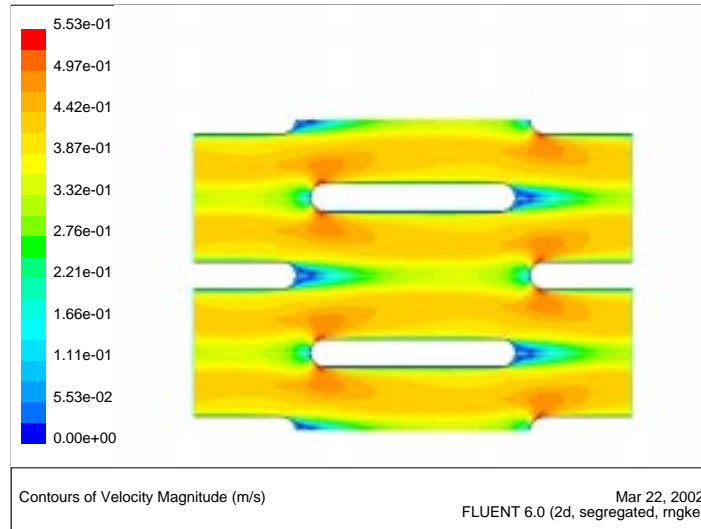

Figure 2.8: Contours of Velocity Magnitude
3. Display filled contours of velocity magnitude (Figure 2.8).